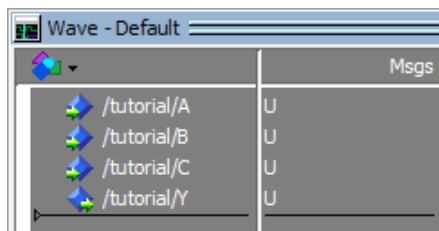

Figure 1.6: ModelSim Wave pane sidebar after adding signals
5. To see the simulation results, all signals must appear in the Wave window. In the Objects window, left-click on the top signal, hold shift, left-click on the bottom signal (this should select all signals) and select Add → To Wave → Selected signals. Figure 1.6
7. To adjust grid lines in the Wave pane, from the Wave menu, select Wave Preferences to launch the Wave Window Preferences window. Next select the Grid & Timeline tab, edit the Grid Period, and then press the OK button. Figure 1.6 shows the ModelSim screen after creating waveforms and adjusting the grid period to 50 ns.